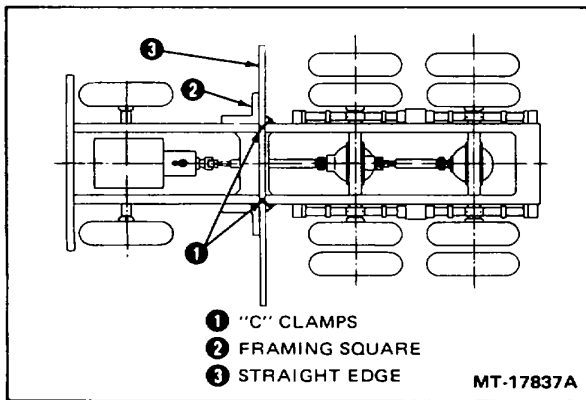

Figure 1 - Straightedge Location on Frame
1. Clamp a straightedge to top frame rail ahead of forward rear axle on 6 x 4 vehicles and ahead of rear axles on 4 x 2 vehicles. Use a framing square against straightedge and outside surface of the frame side member to insure straightedge is perpendicular to frame, as in Figure 1.